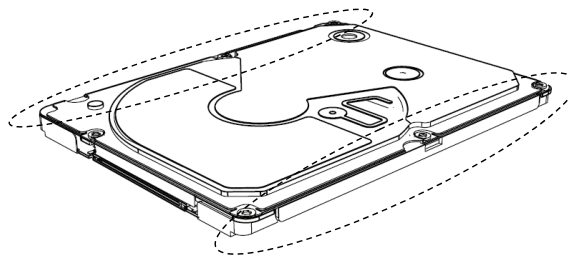

Figure 6. Lyrion Series proper handling example
- Handle the drive only by its edges or frame or designated finger grip region during mounting (see Figure 6).